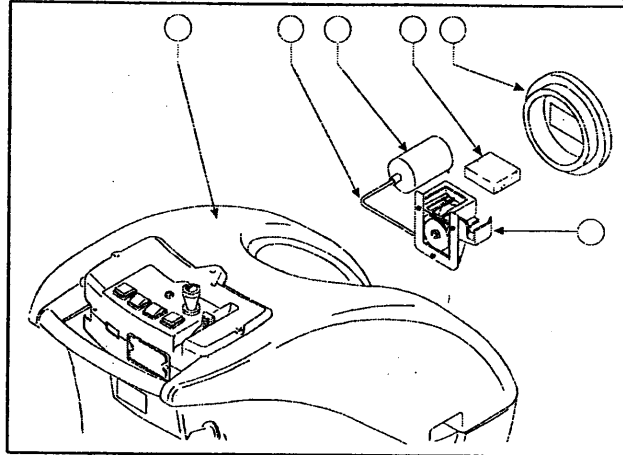

Fig. 12
While washing the recovery tank never remove the suction filter (fig. 12, ref. 2) from its seat and never direct the jet of water towards the filter itself.
- Unscrew and take off the tank cap (fig. 12, ref. 1) from the recovery tank (fig. 12, ref. 4);
- make sure that the recovery tank (fig. 12, ref. 4) is empty;
- take out the air filter (fig. 12, ref. 2) of the suction unit from the float support (fig. 12, ref. 3), which is located on the upper inner side of the recovery tank;
- check that the floating rod (fig. 12, ref. 5), which is also fixed to the support (fig. 12, ref. 3), moves freely and clean it, if necessary;